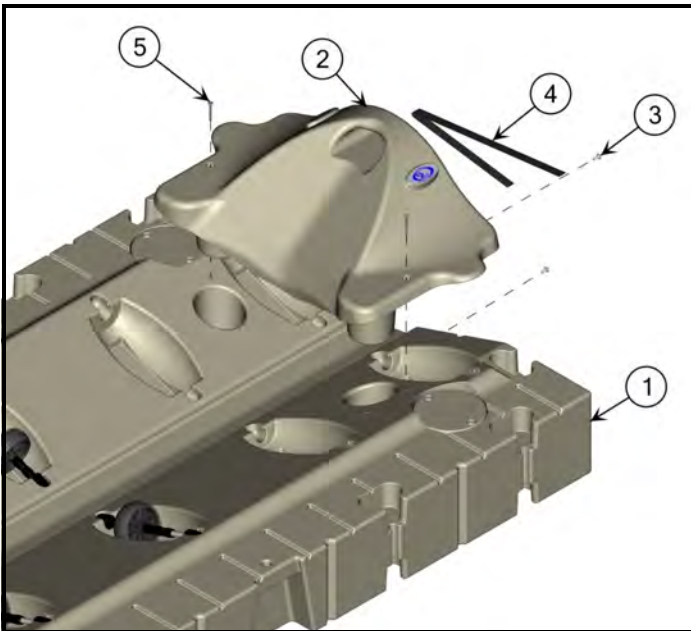

Figure 3.
- The small bow section (Item 2) is an economical way to protect your PWC, (Figure 3). To install, the small bow section is inserted into the holes located near the front of the entry section. Push the small bow section down firmly into the holes and install two (2) bolts (Item 3). When the small bow section is fastened in this way, it will not require Item 3 or Item 4 (Figure 3).
Step 4: The small bow section (206025BS-**) is used as a safety bulkhead and barrier between PWC's. For an in-line installation the small bow section is installed between the ports and is used as a removable stop between the PWC's (refer to Page 11, Figure 3). The small bow section can either be fixed in place for single port options or tethered using a nylon tether (Item 4) and two (2) bolts (Item 3). When used on an in-line port application Item 3 and Item 4 are required and the two (2) bolts (Item 5) are omitted.